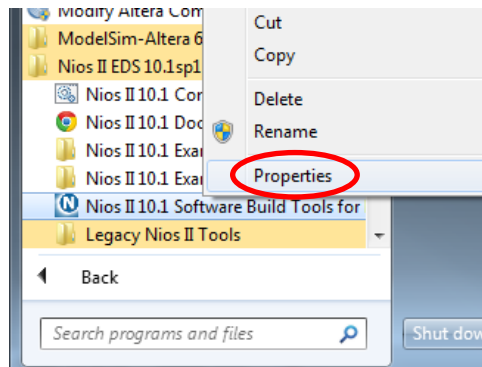
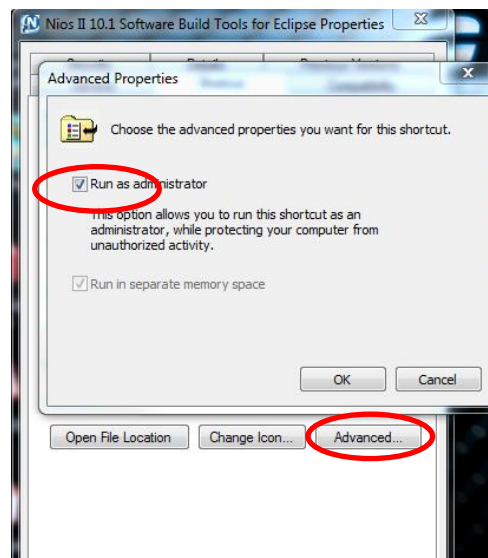

Figure 29. We need to change the properties on the shortcut
Figure 30. Nios II SBT need to have admin rights when running
3. On Windows computers, hover mouse over **All Programs > Altera > Nios II EDS 10.1 > Nios II 10.1 Software Build Tools for Eclipse** in the Windows Start menu. Right click mouse to bring up menu and go to Properties (Figure 29 below) then select the “Advanced ...” button and set the “Advanced Properties” to “Run as administrator” (Figure 30 below). Then choose **All Programs > Altera > Nios II EDS 10.1 > Nios II 10.1 Software Build Tools for Eclipse** in the Windows Start menu to run the program.